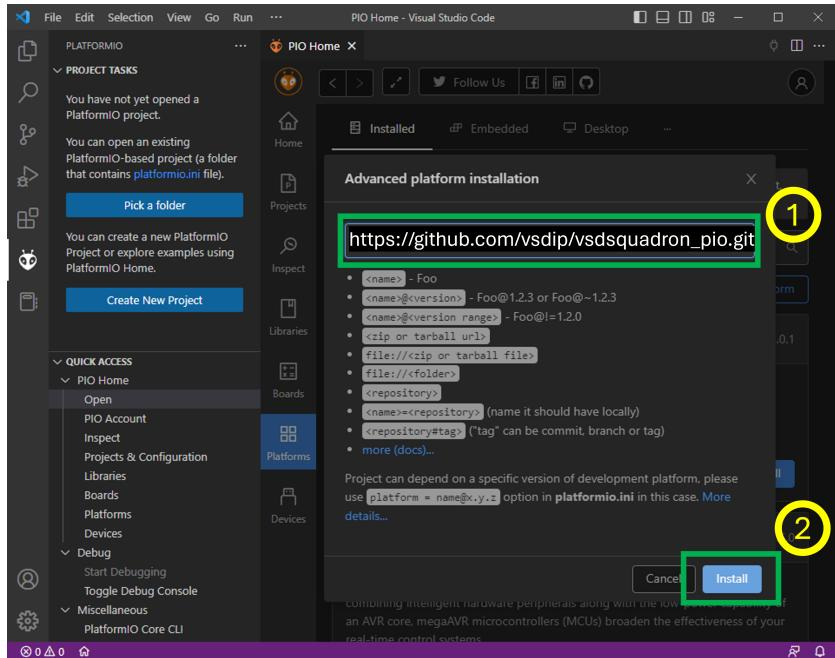

Figure 7: VSCode GUI highlighting "Repository URL" and "Install" button
- Enter the following repository URL when prompted and press "Install," as shown in Figure 7: https://github.com/vsdip/vsdsquadron_pio